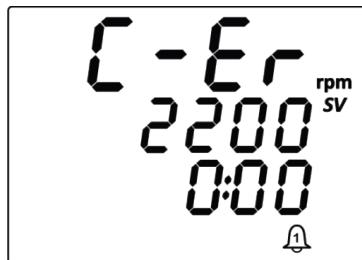

Figure 8 - Emergency stop because of overload
- 8.4.2. If overload warning is ignored without remedying its cause, then after some time there will be emergency stop of the device with sounding audible alarm and showing the fault message on the display (Figure 8). To start stirring process again after remedying the cause of overload, turn on and off power supply using the power switch.